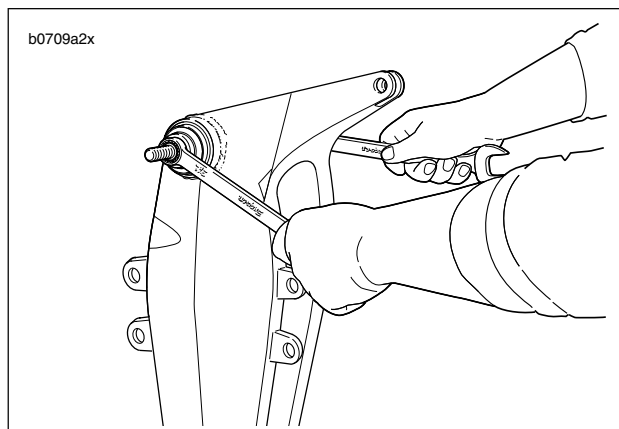

Figure 2-69. Installing Bearings into Swingarm
1. See Figure 2-69. If necessary, draw **new** roller bearing cups into swingarm using BEARING INSTALLATION BOLT (Part No. B-35316-5) and STEERING HEAD BEARING RACE INSTALLER (Part No. HD-39302).